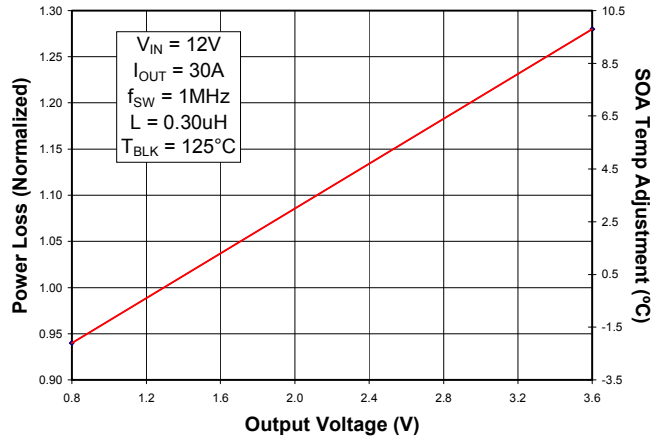

Fig. 4: Normalized Power Loss vs. V_{OUT}
- (Fig. 4) Normalized power loss for output voltage ≈ 1.24
- (Fig. 4) Normalized SOA Temperature for output voltage $\approx 8.4^\circ\text{C}$